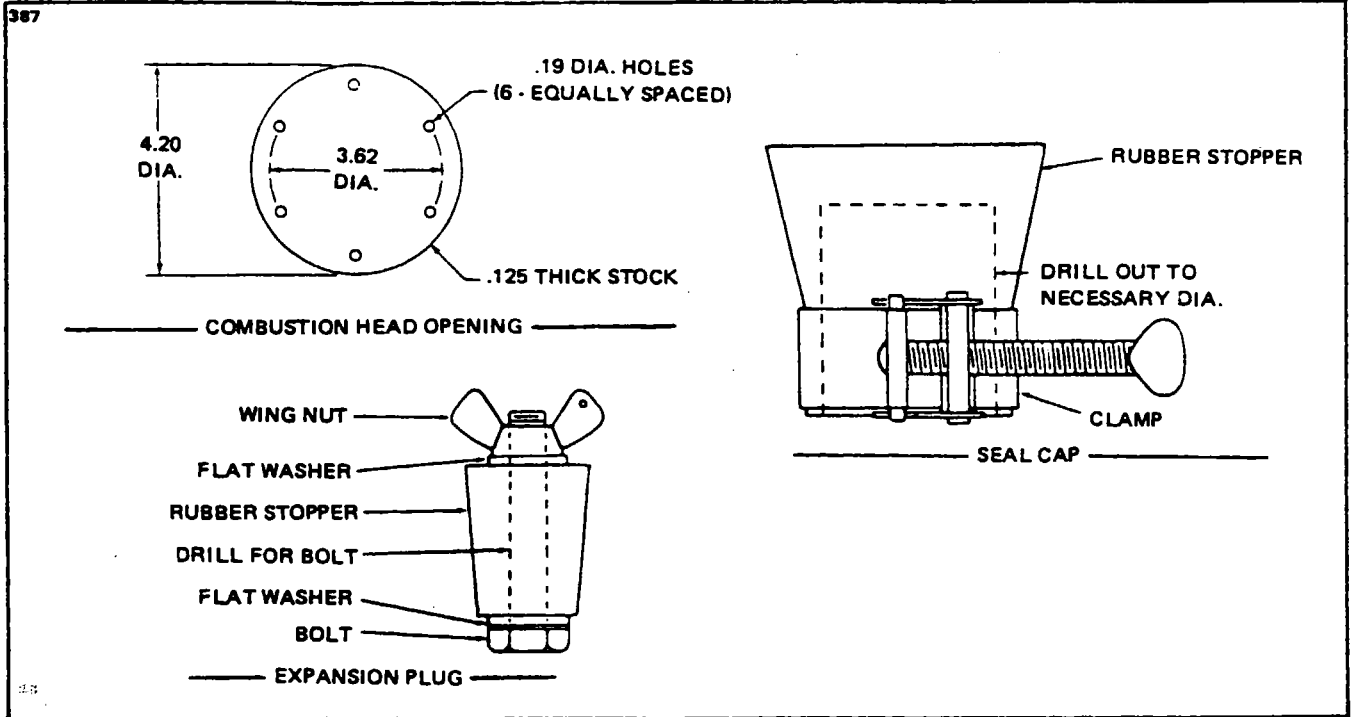

Figure 13-16. Suggested Design for Seal Plates, Plugs, and Caps for Combustion Tube Leakage Test
b. Test the combustion tube assembly (7) for leaks as follows:
1. Fashion a sealing plate from approximately 1/8 inch thick flat stock to seal the combustion head opening in the combustion tube assembly. (Refer to Figure 13-16.) Use a rubber gasket under the plate and attach the plate with six screws.
2. Make up seals for all remaining openings, except the one used to connect the air pressure source. (Refer to Figure 13-16.) Use rubber stoppers as shown. The combustion air inlet tube can be sealed best with a drilled stopper and clamp. Other openings should be sealed with expansion plugs. The seal used in the exhaust tube should be formed so that it will not deform the air pressure switch tube which protrudes into the exhaust.